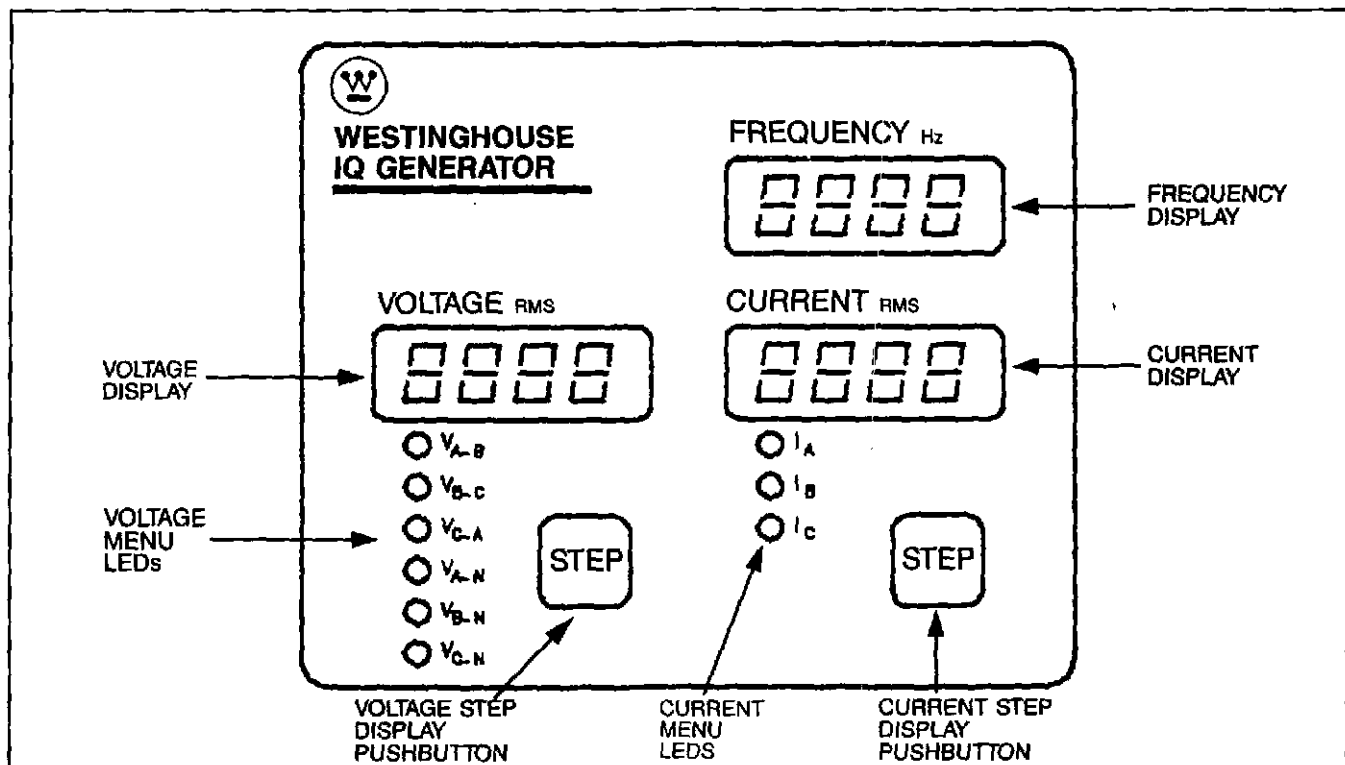

Figure 3.1 Operator Panel
- Monitor the actual metered values on the Display Window. (See Figure 3.1.)
3.1 Membrane Pushbuttons — The Operator Panel supports 2 membrane pushbuttons. (See Figure 3.1.) Both membrane pushbuttons perform the following function: